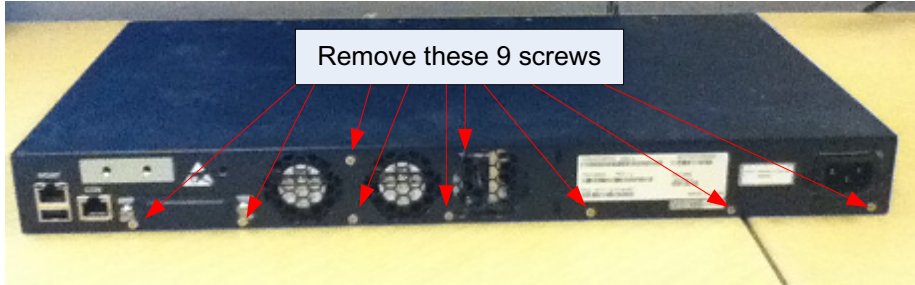

Figure 3-4: EX2200 Rear screws
4. Remove nine screws from rear of chassis (figure 3-4)